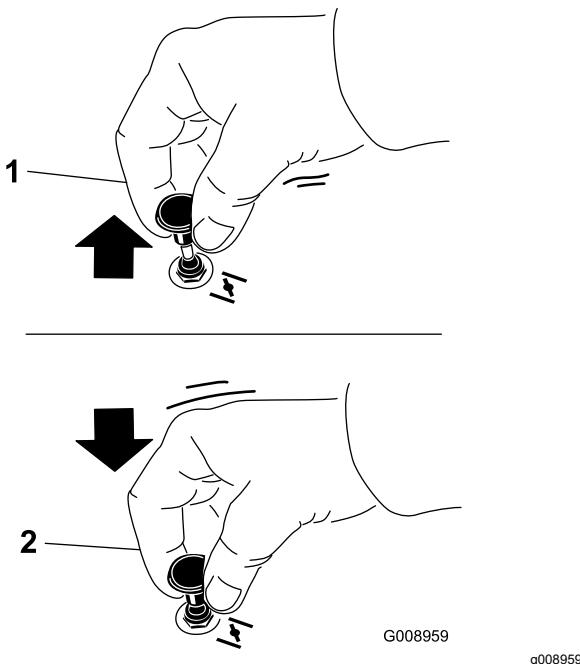

Figure 24
1. Pull up the choke knob to engage the choke before using the key switch (Figure 24).
2. Push down the choke knob to disengage the choke after the engine has started (Figure 24).